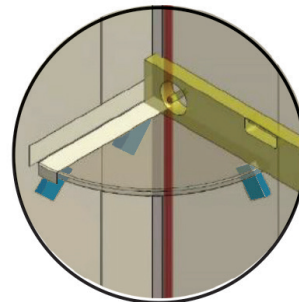

FIG 25.
- Carefully move door to the open position (5-10mm before door handle strikes the glass) and slide along the plastic door stop up against the back wheel. Screw down through the top of the track (FIG 25).
- Place the shelf in position to confirm that it is level. If required, adjust the stabiliser blocks to suit. Optional - apply insulation/gaffa tape to shelf/wall to prevent bleeding of the adhesive onto the wall or shelf (**FIG 25**).